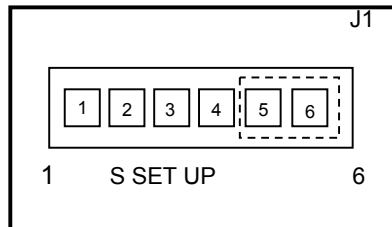

Figure 9
9. Position the jumper on pins **5** and **6** of the **J1 (S SET UP)** header. *(Refer to Figure 9).*